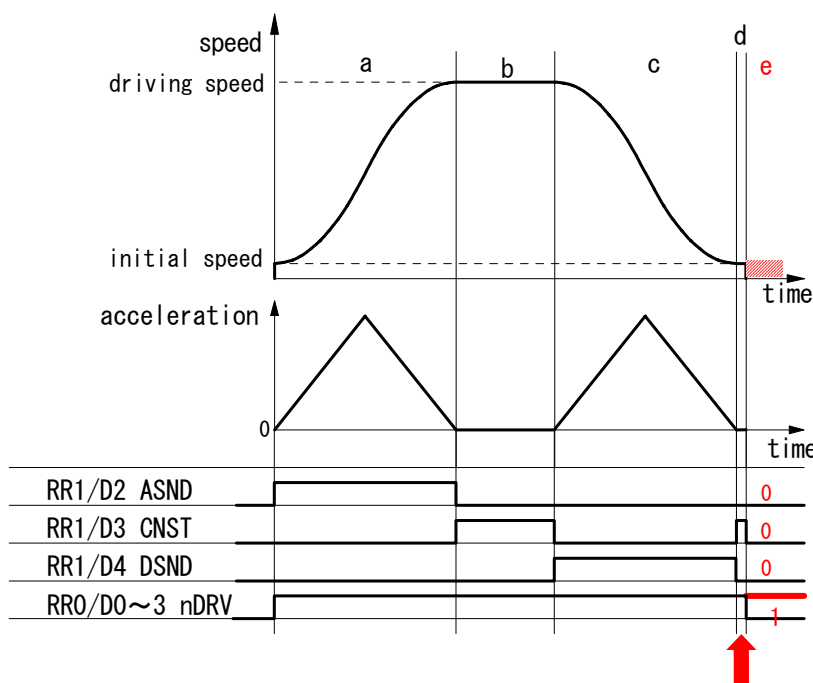

Figure 3. Status of deceleration shown by RR1 register
Deceleration status of accelerating(ASND), constant speed driving(CNST) and decelerating(DSND) can be read out according to RR1 register of IC. The status is shown as Figure 3. as below ;
The timing when the trouble may possibly happen is shown as “d” on Figure 3. At this time, status of deceleration is constant speed driving(CNST=1). Besides in case the trouble such as outputting pulse continuously happens, all of ASND, CNST and DSND will become 0 even though it's driving(RR0/nDRV=1).
Basically once deceleration starts, it isn't necessary to execute deceleration stop command. Therefore deceleration stop command should be prohibit. See nRR1/D4(DSND) normally to know it's decelerating or not. Timing when the trouble happens is in “d” as shown on Figure 3 if deceleration stop command is executed. In “d” DSND status bit is 0 and CNST status bit is 1. Therefore the following two(2) solutions will be proposed.
(1) When interruption from IC can be used
Terms when deceleration stop command should be executed in accelerating and constant speed driving such as “a” and “b” on Figure 3. Status of deceleration for both “d” (timing when the trouble happens) and “b” (constant speed driving) is same as constant speed driving as shown on Figure 3. But there is difference of driving speed between two. Driving speed in “b” is near that of setting driving speed. Driving speed in “d” is near that of initial speed. Therefore before driving starts, prepare judgmental speed which is middle one between initial speed and setting speed ((Driving speed - initial speed)/2 + initial speed). When execute deceleration stop command during driving, make sure status is accelerating(ASND=1) or constant speed driving(CNST=1) and driving speed is same or faster than judgmental speed.
Constant speed area (“b” area) on Figure 3 is set as occurrence factor of interruption. But this interruption is also happened when there is “d” area just before driving stops on Figure 3 such as when driving speed reaches initial speed or when acceleration becomes 0(zero). There should occur “d” area definitely if the trouble is happened just before driving stops, driving speed hasn't reached initial speed yet, acceleration becomes 0 and decelerating stop requirement is executed. The measure is to judge if the trouble happens or not in the timing of interruption when “d” area ends.
- ① Check if driving goes out constant speed area or not. If RR3/D5(C-END) bit of driving axis is 0, there are other interruption factors. Execute those interruption processing.
- ② Check if driving goes into decelerating area or not. If it's RR1/D4(DSND)=1, make it finished as it goes because driving goes into "c" area from "b" area on Figure 3. If it's RR1/D4(DSND)=0, move it to ③ processing because driving has gone out "d" area.
- ③ Check if driving has finished or not. If it's finished, make it finished as it goes because driving has finished normally. But if it's not finished yet, surely trouble have happened because status is shown as it's still driving even though driving has gone out "d" area.
- ④ Check if hard limit is ON or OFF. Since RR1/D12 bit becomes 1 if + limit is ON and RR1/D13 bit becomes 1 if - limit is ON, if it's D12=1 or D13=1, judge forward limit is ON.
- ⑤ If trouble has happened, it becomes ASND=CNST=DSND=0. Check them all.
- ⑥ Execute sudden stop command(27h).
(2) When interruption can't be used
In “d” area on Figure 3, if forward limit is active, the trouble will happen, more exactly saying, it will seldom happen. There isn't any method to avoid it before it happens. So immediately after the trouble happens, take means to stop driving. If the trouble happens (“e” area on Figure 3), status keeps driving(RR0/nDRV=1), status of acceleration/deceleration is 0 in ASND, CNST, DSND. This is completely abnormal state. So the example of measure is shown as follows;